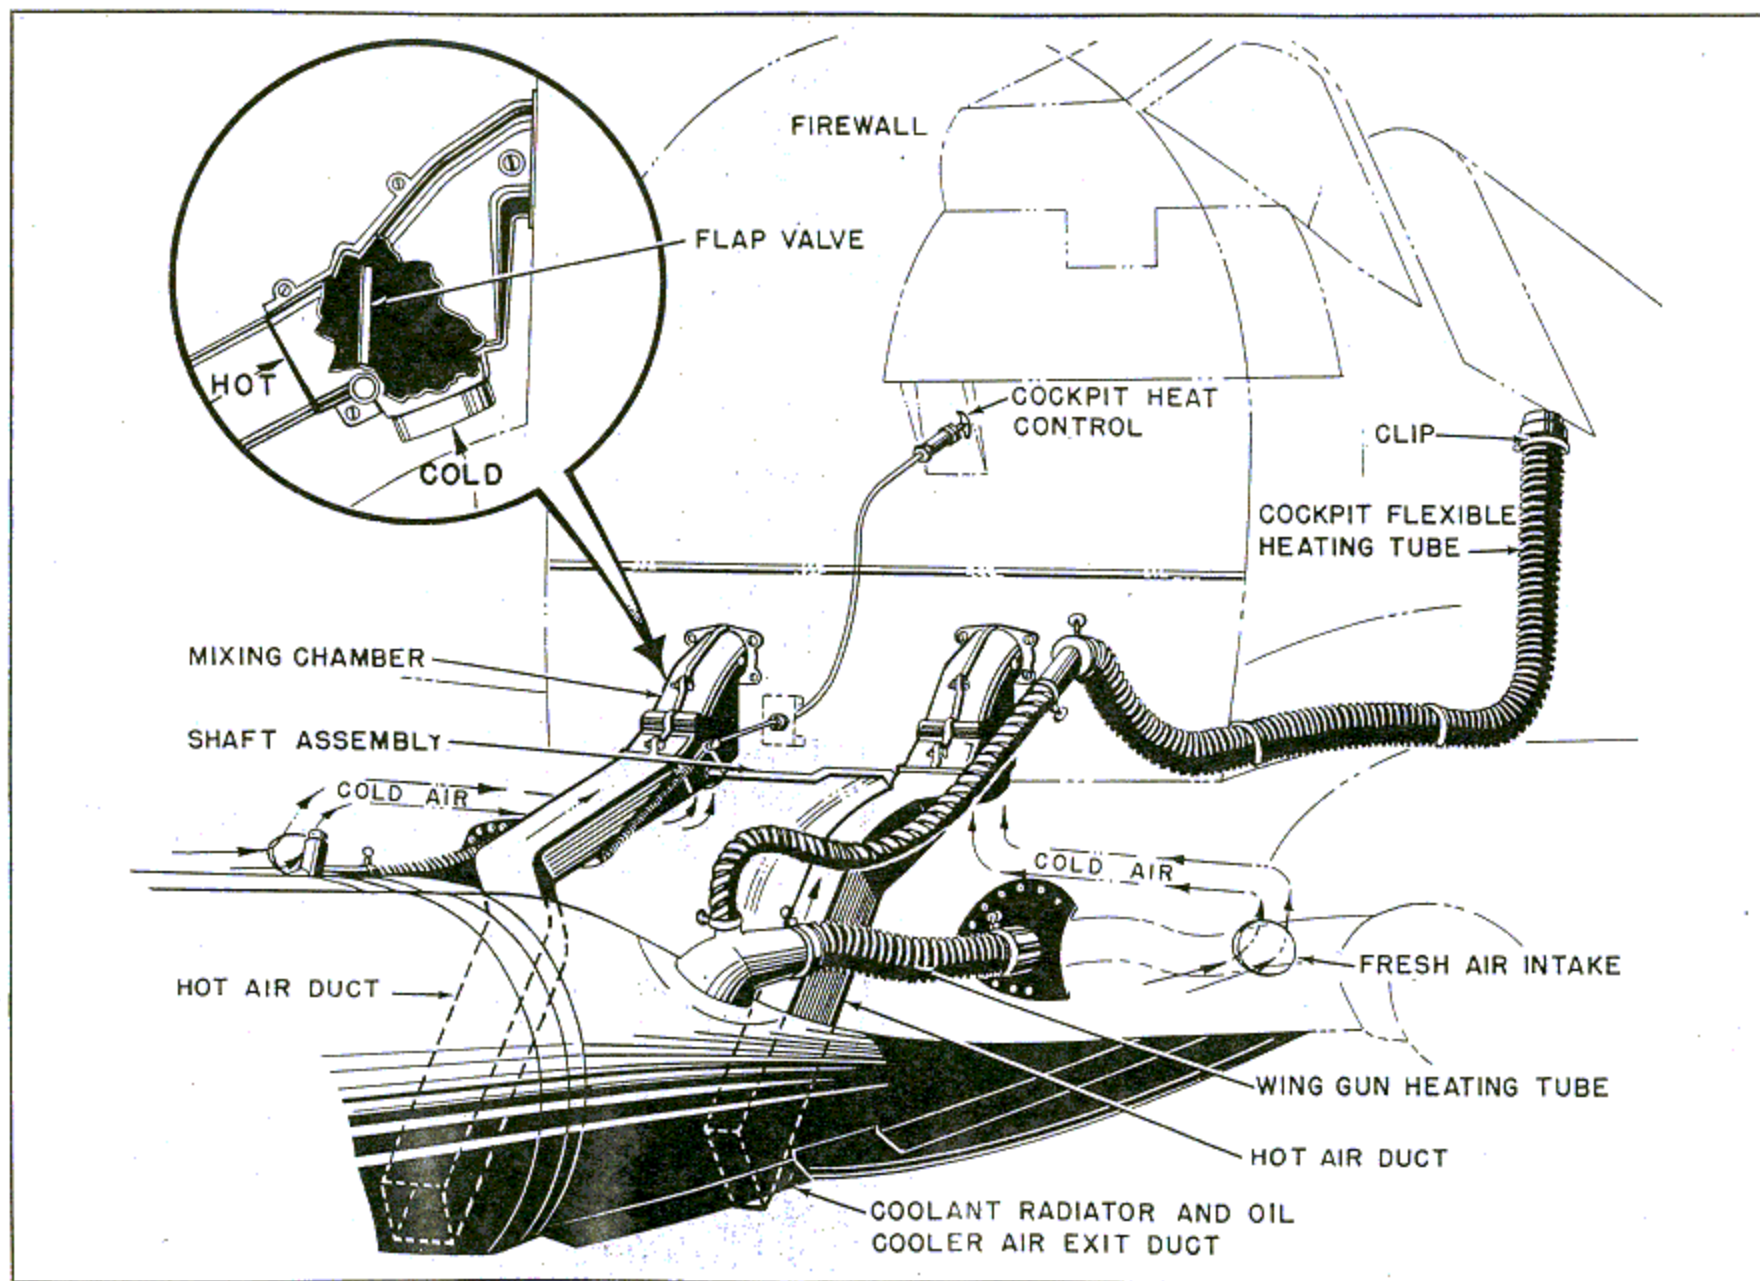

Figure 295—Heating and Ventilating System
(a) DESCRIPTION.—This airplane is equipped with a ventilation system in which hot and cold air is fed from two mixing chambers into the right and left sides of the cockpit at the floor line. An auxiliary hot air line is held by a clip beside the pilot's seat. (See figure 295.)
(b) TO REMOVE MIXING CHAMBER. (See figure 295.)
7. Pull the mixing chamber outboard until the shaft of the flap valve is pulled loose from the slotted end of the shaft assembly. (See figure 295.)